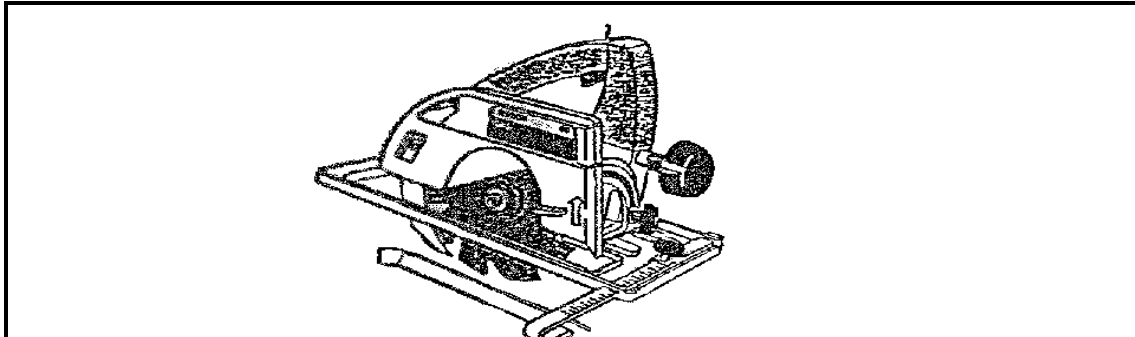

FIGURE 6.1
6.1 Identify the type of saw in FIGURE 6.1.